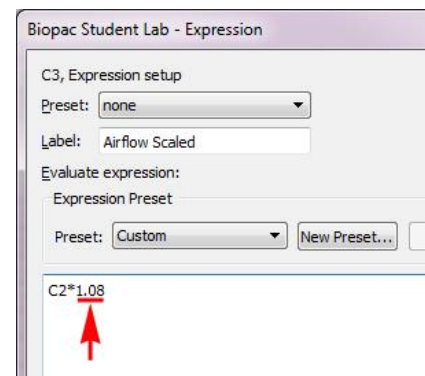

Figure 11
21. Enter the calculated scaling factor into the C2 expression. For the Figure 11 example, the previous value was replaced with **%a08.+**